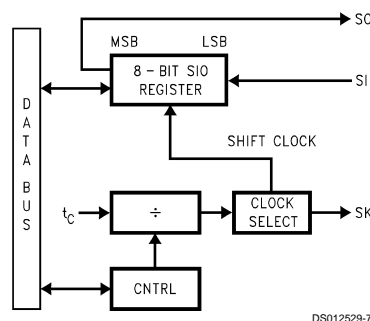

FIGURE 6. MICROWIRE/PLUS Block Diagram
MICROWIRE/PLUS is a serial synchronous bidirectional communications interface. The MICROWIRE/PLUS capability enables the device to interface with any of National Semiconductor's MICROWIRE peripherals (i.e. A/D converters, display drivers, EEPROMS, etc.) and with other microcontrollers which support the MICROWIRE/PLUS interface. It consists of an 8-bit serial shift register (SIO) with serial data input (SI), serial data output (SO) and serial shift clock (SK). Figure 6 shows the block diagram of the MICROWIRE/PLUS interface.